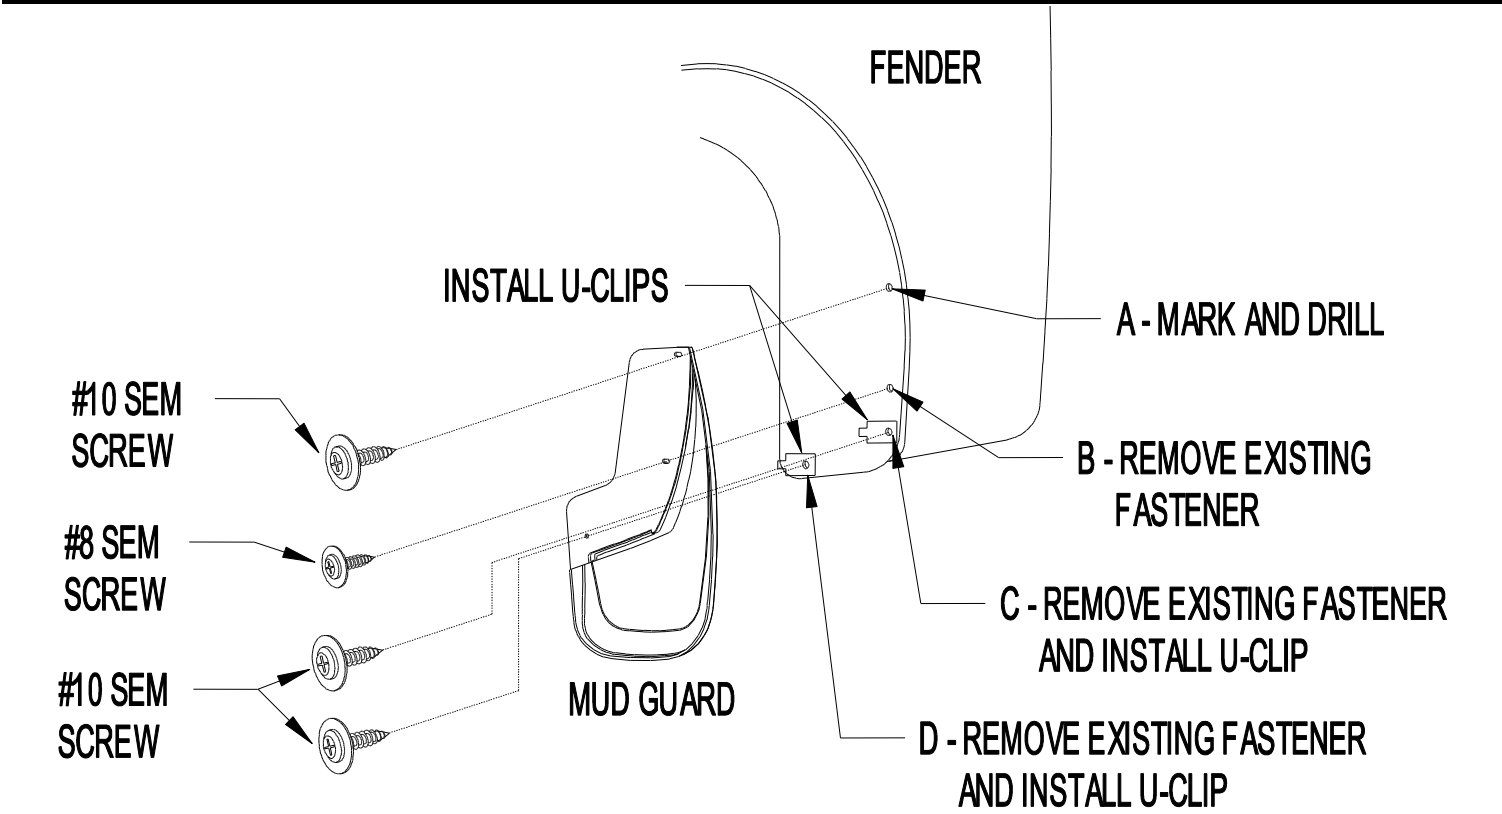

Figure 1
1. Remove existing fasteners from locations B, C, and D (Figure 1).